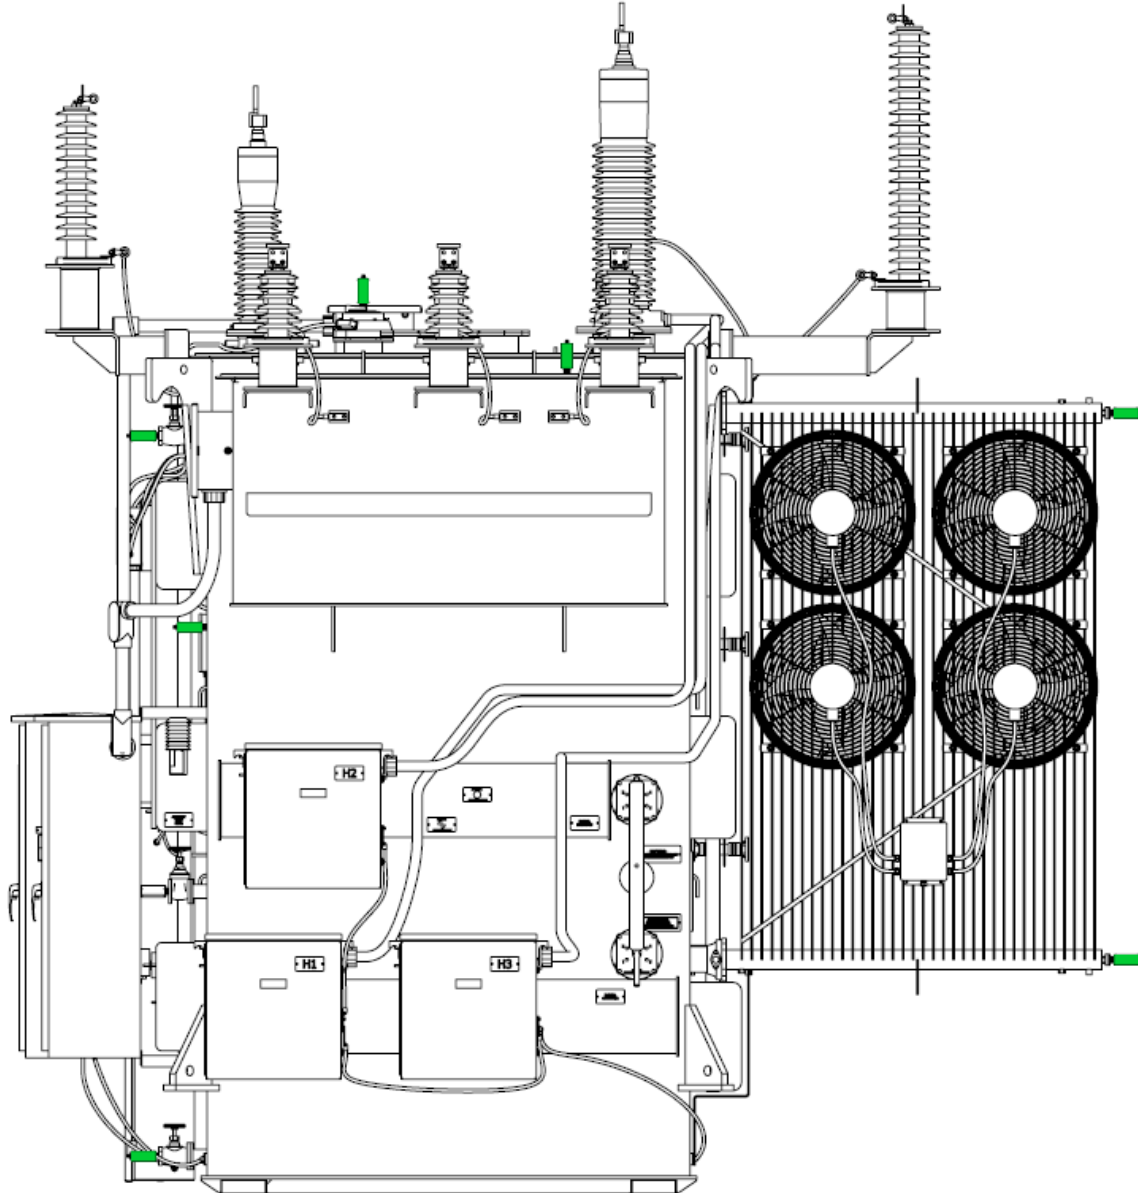

Figure 4: Typical Locations for GRIDSCAN 5000 Installation
- Do not install monitor in turbulent oil flow. See Figure 4 for mounting locations.